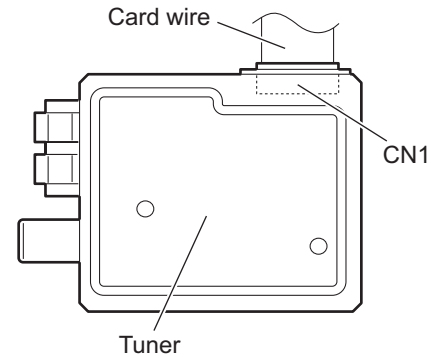

Fig.14
3.1.7 Removing the tuner (See Fig.14)